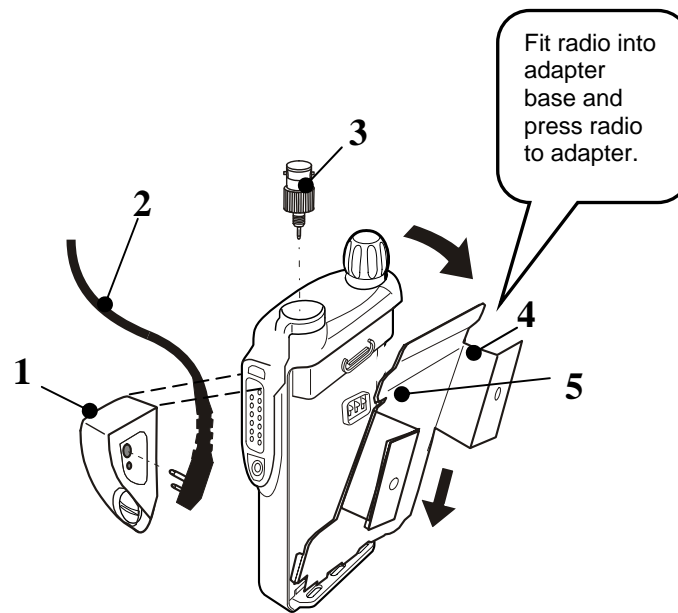

Figure 21-31 GP/HT/PRO Radio Installation
2. Connect the audio accessory adapter (HLN9716) (Item 1) to the radio. See Figure 21-31.